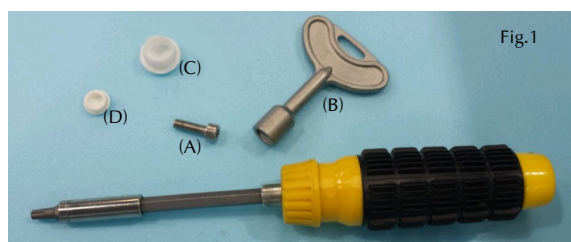

Fig.1
- 4.8(a) Items Required (Fig.1); Screwdriver and 4mm allen key (not supplied by Duplus). Items A,B,C & D supplied by Duplus.